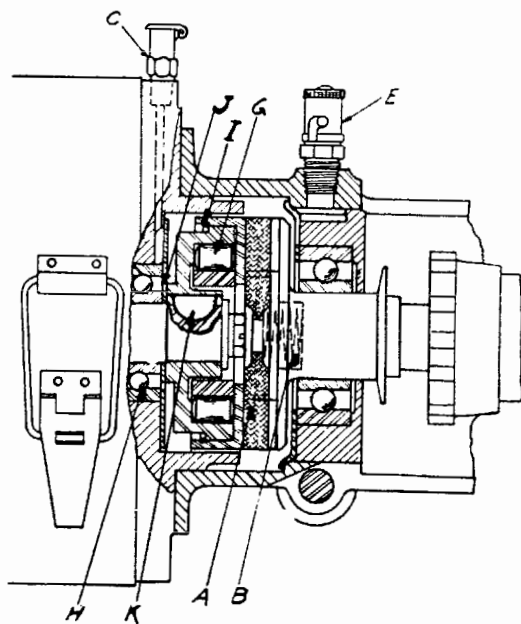

Fig. 96
An inoperative overrunning clutch is caused by lack of lubrication. In such cases the clutch (G) in Fig. 96 should be removed, disassembled by removing locking wire (I), thoroughly cleaned, packed with vaseline and reassembled. See that oil placed in cup (C) will feed through at (J). Then assemble clutch to generator shaft, exercising care that key (K) is in place and not pushed out of position. The oil cup (C) is the means for lubricating the front generator bearing and the clutch (G). It should be liberally supplied with oil every 250 miles when engine is stopped so that excess oil will flow down into the clutch.